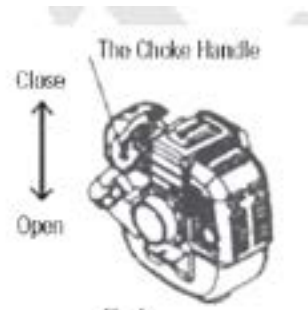

Fig 4
2. Close the choke totally (Fig 4) If the engine is heated, the choke must be totally opened.